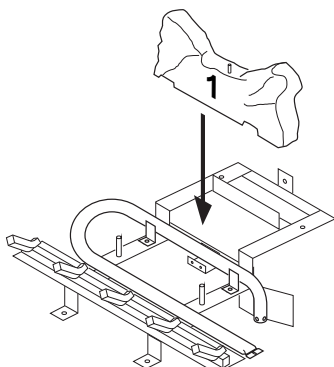

Figure 44 - Installing Log No. 1
1. Place log #1 (rear log) on top of grate. Make sure notches in bottom of log fit over grate (see Figure 44, page 26).